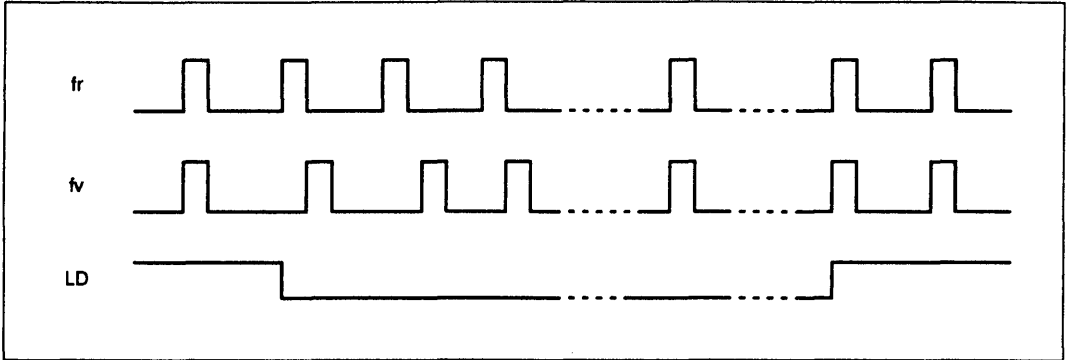

Figure 2. Phase Comparator Input/Output Waveforms (Lock Detector)
The lock detector detects the lock and unlock states of the PLL. The lock detector outputs high when the PLL enters the lock state and outputs low when the PLL enters the unlock state as shown in Figure 2. When pulse width of the error signal is kept zero for four (4) clocks, the lock detector outputs high as a lock signal. When it detects phase difference after the PLL is locked, low is output at once. When PS is low, the lock detector outputs high compulsorily.